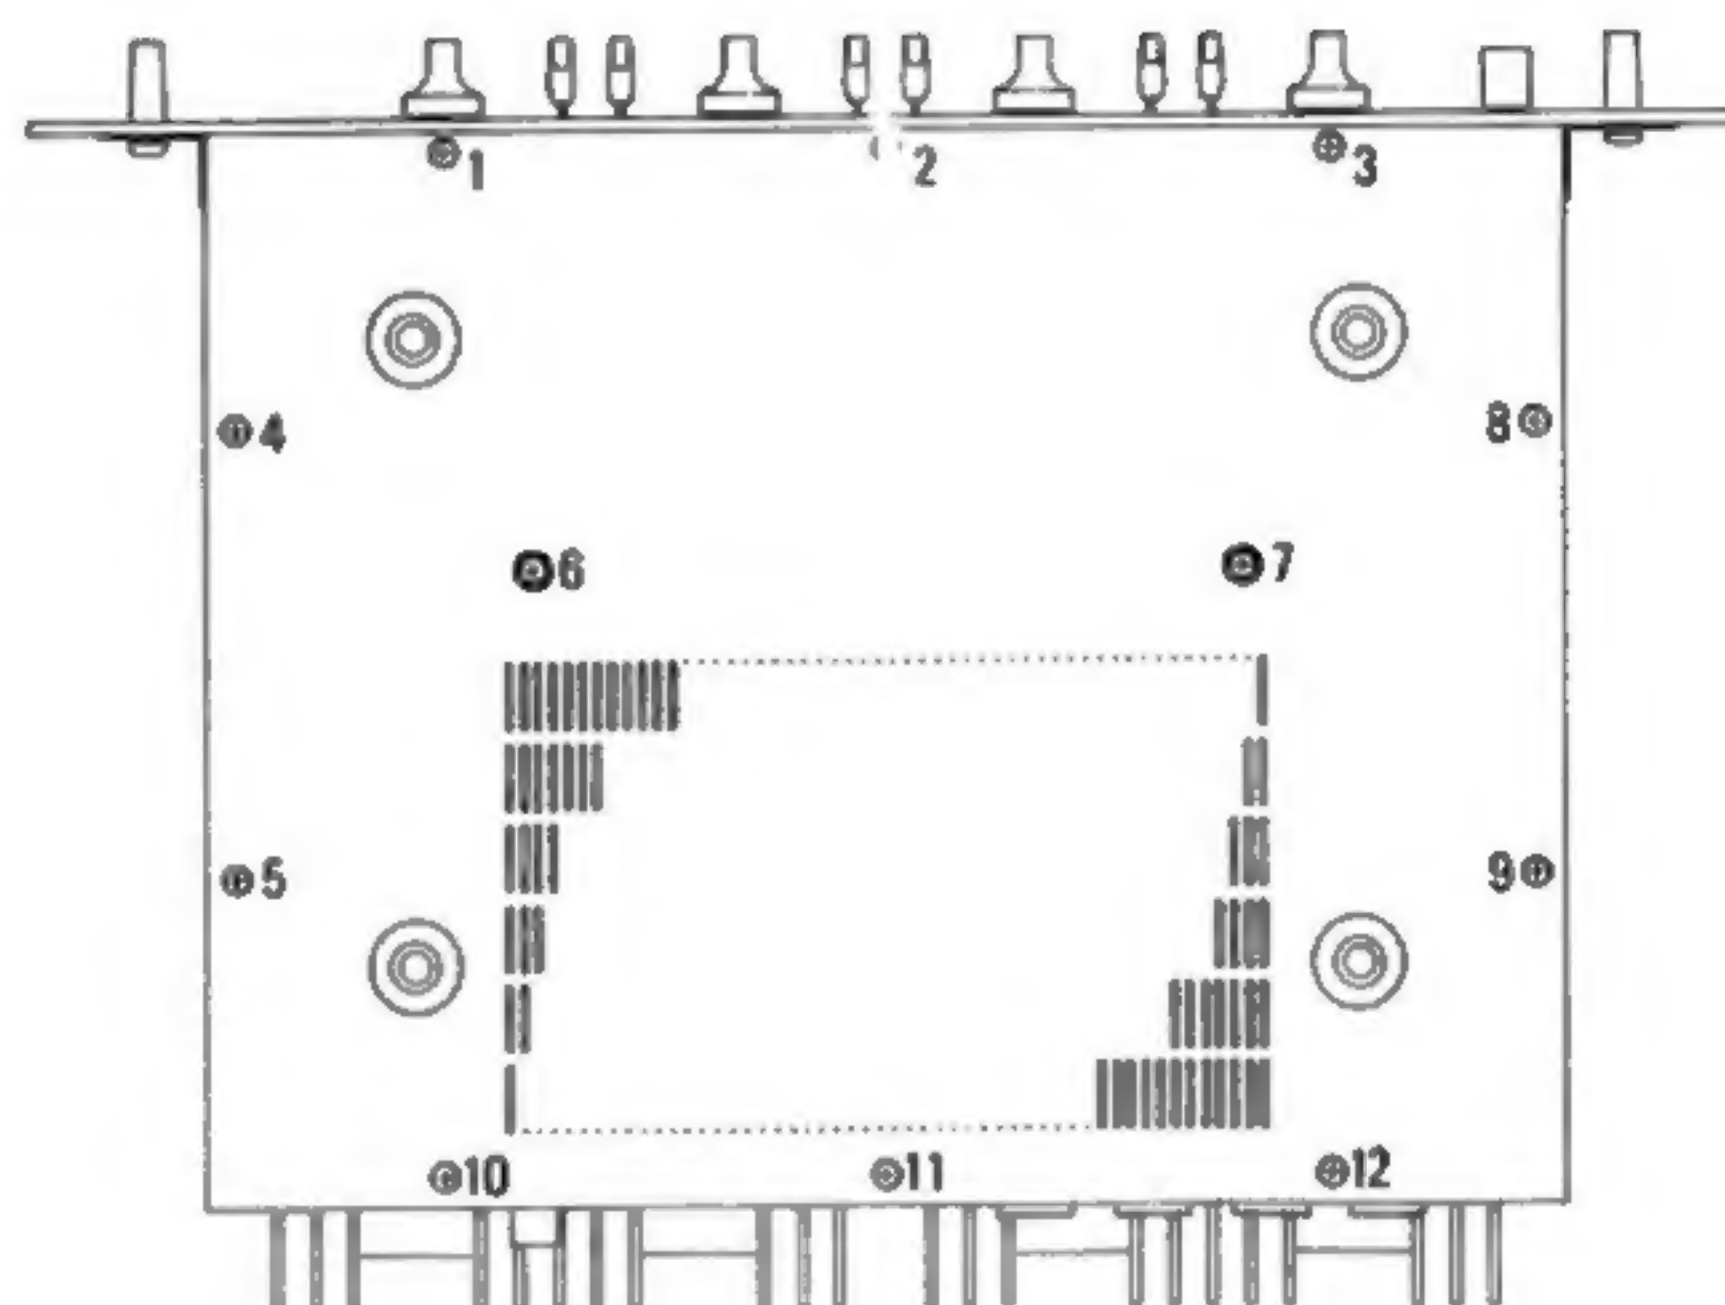

Fig. 1-2 BOTTOM VIEW
2. Remove Bottom Cover. (Fig. 1-2, remove screws 1-10.)